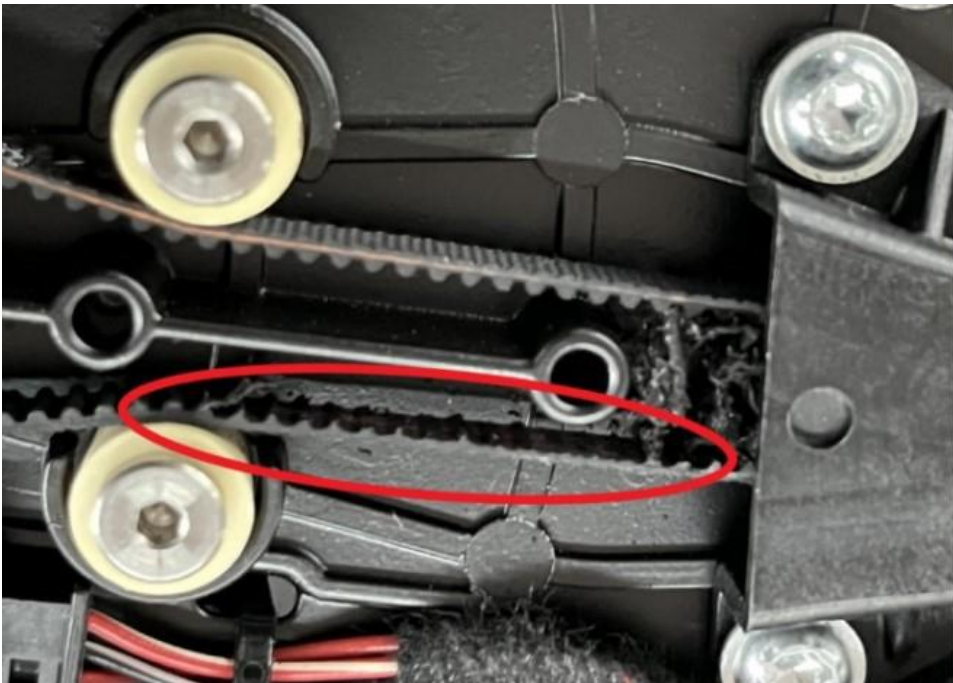

Figure 7
8) Belt drive check (Figure 7)